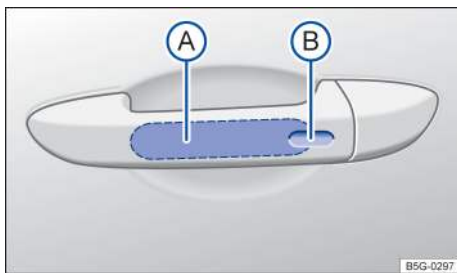

Fig. 51 Keyless Access system: Unlocking and locking sensors on the outside door handle.
Key to fig. 51:
- Grasp the door handle of the driver or front passenger door so that you touch the unlocking sensor surface → fig. 51 .
- Touch the lock sensor surface in the door handle on the driver or front passenger door → fig. 51  *one time*. The vehicle is locked. The door being locked must be closed.
- Within 5 seconds, touch the lock sensor surface on the door handle on the driver or front passenger door → fig. 51 .
To use the convenience closing feature to close all power windows and the power sunroof, hold your finger on the lock sensor surface on the outside of the door handle → fig. 51  for a few seconds until the windows and the power sunroof close.